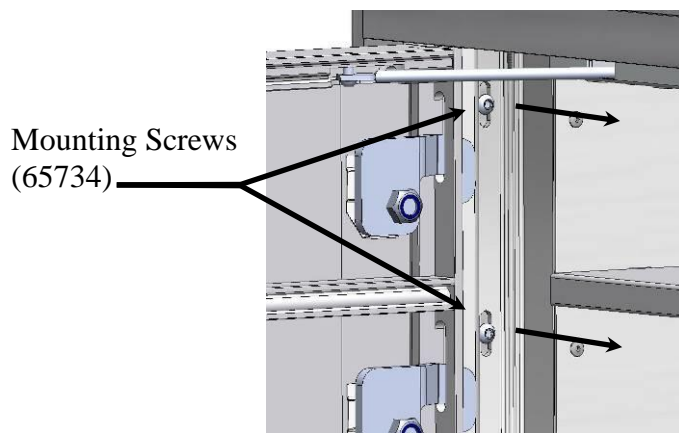

Figure 11 – Remove Left and Right Side Mounting Screws
**Step 2 -** Remove mounting screws along both sides of the versatile™ 4C unit. (See Figure 11)